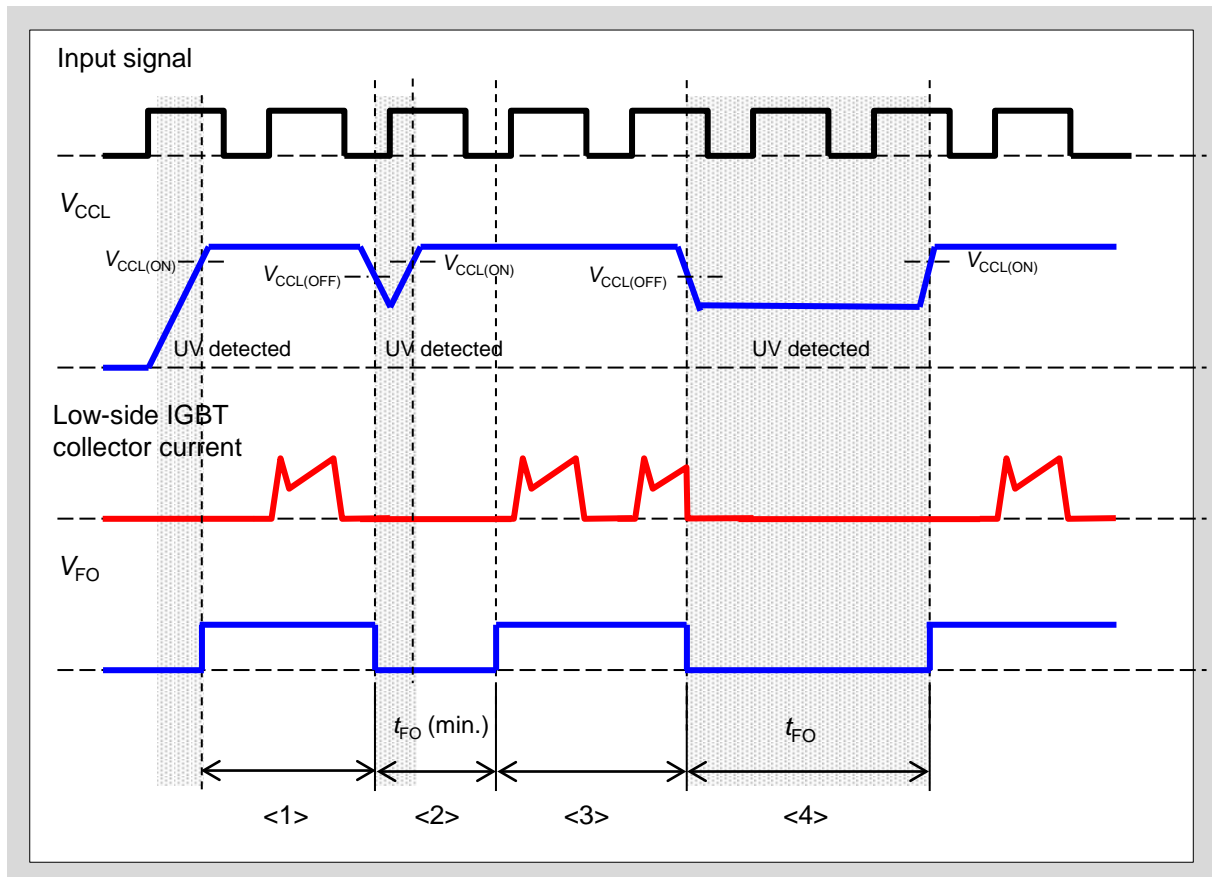
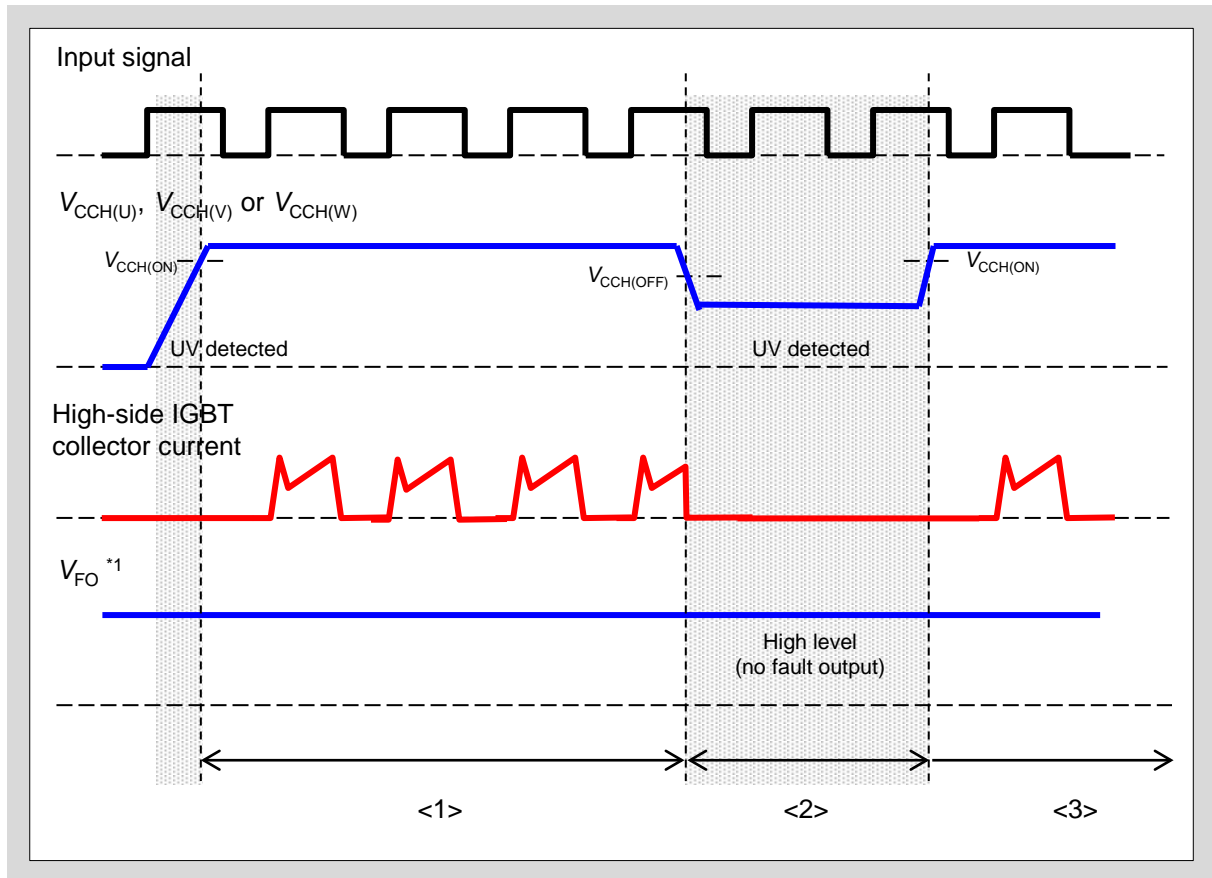

Fig. 3-2 UV protection operation sequence of  $V_{CCL}$
Fig. 3-3 UV protection operation sequence of  $V_{CCH(U,V,W)}$
- Fig.3-2 and Fig.3-3 shows the operation sequence of UV operation of  $V_{CCH}$  and  $V_{CCL}$ .